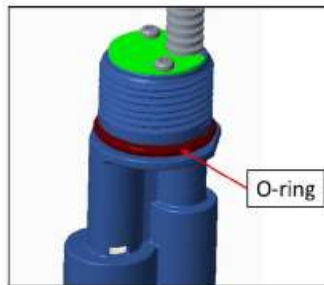

Figure 7: Ensure that an O-ring is installed on the new Tri-Function Sensor.
13. Ensure that the new GEN 7 sensor has an O-ring installed. See Figure 7 below.